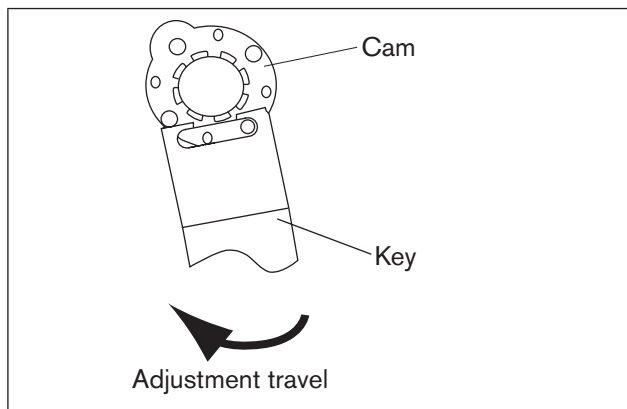
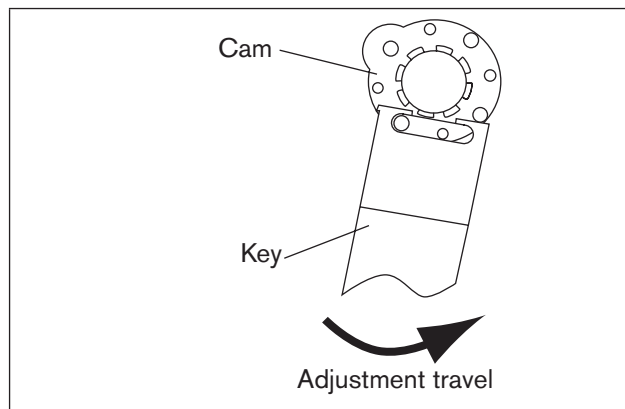

Figure 11: Adjusting limit switch clockwise
Figure 12: Adjusting limit switch anti-clockwise
- Adjust the two upper cams with a suitable key (see “Figure 11” and “Figure 12”).